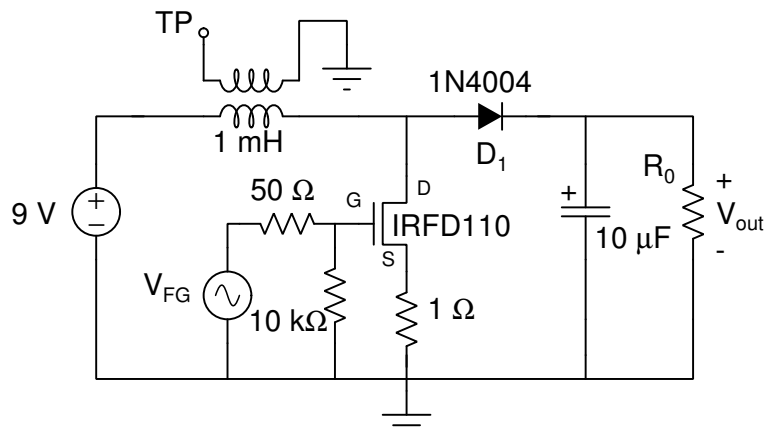

Figure 5: Boost circuit.
Build and test the boost-circuit. The schematic is shown in Figure 5. A MOSFET transistor (IRFD110) is used as a solid-state voltage-controlled switch. Try to place the circuit near the end of your breadboard (and don't disassemble the circuit at the end of the lab), as you will eventually need two boost-circuits on the breadboard to meet the specifications in Lab 10. Record all results in your laboratory notebook.
- Build the boost-circuit shown in Figure 5 but do **not** apply the 9 volt power supply.